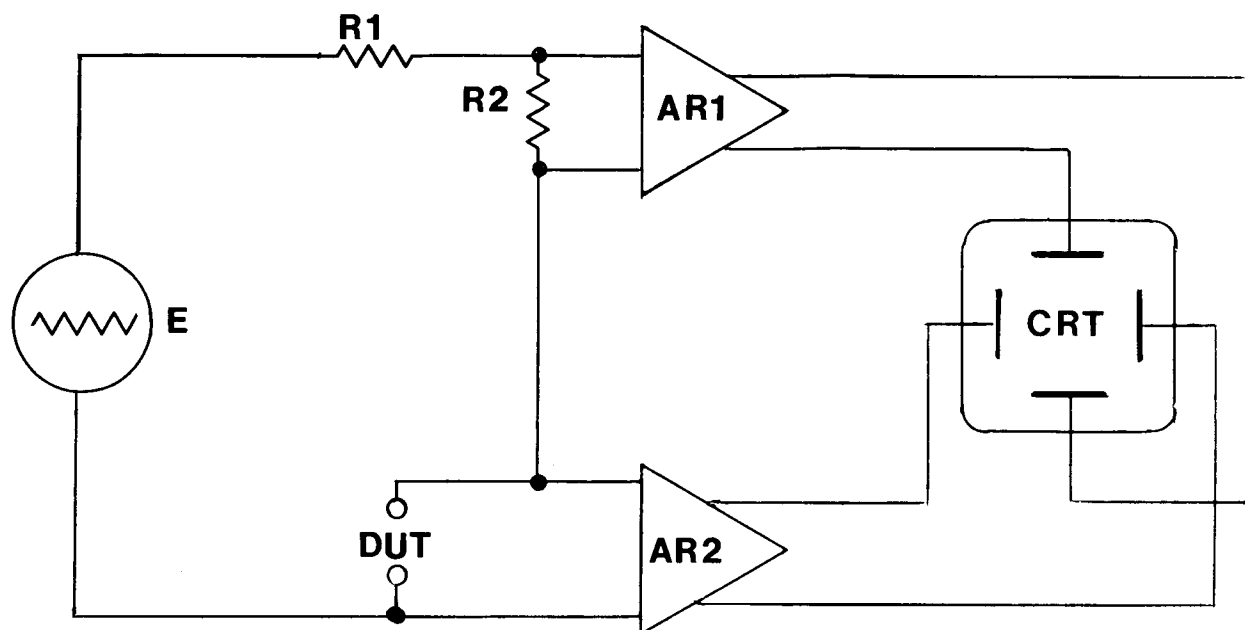

FIGURE 5. SIMPLIFIED BLOCK DIAGRAM
below in Figure 5. The Triangle-Wave Generator (E), applies a 100 Hz test signal to the device-under-test (DUT) (component or circuit) through the current limiting resistors R1 and R2. Differential Amplifier (AR1), senses the voltage across R2 and applies the voltage, which is proportional to the current through R2, to the VERTICAL deflection plates of the CRT. The input impedance of AR1 is high enough so that there is negligible loading of R2 by AR1. This insures that the current through R2 is the same as the current through the DUT.